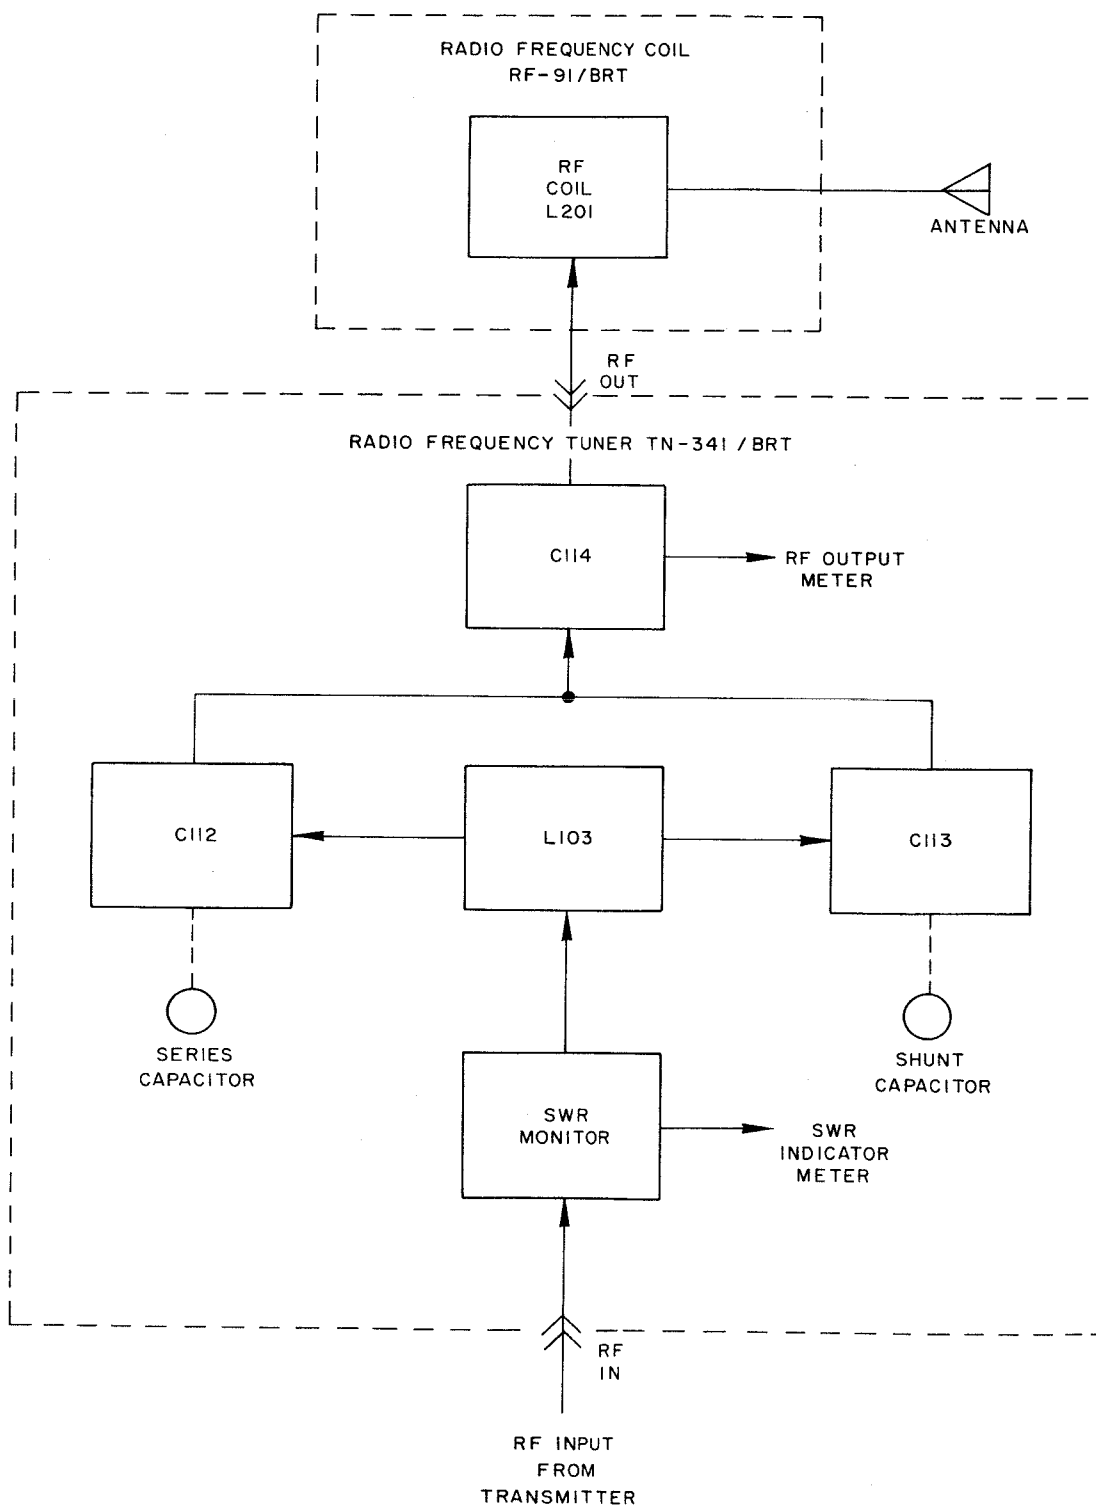

Figure 4-1. Antenna Tuning Group AN/BRA-6, Functional Block Diagram
4-1. OVERALL FUNCTIONAL DESCRIPTION. (See figure 4-1.)
- a. Antenna Tuning Group Block Diagram (see figure 4-1).
c. **SYSTEM TROUBLE-SHOOTING CHART.** - Table 5-2 outlines the procedures to be followed to localize the functional section at fault. See figure 4-1 for a functional block diagram of the equipment, and see figures 6-2 and 6-5 for schematic diagrams.